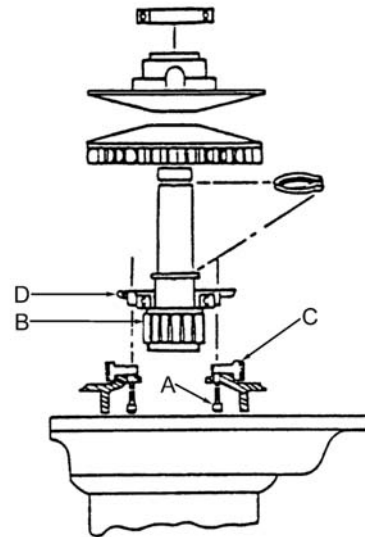

Figure 22: Brake shoe replacement
Refer to Figure 22.
3. Remove two screws (A, Figure 22).
5. Replace brake shoes (C).